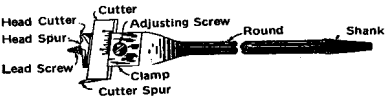

FIGURE 4. Expansive Bit.
2.09 *Expansive Bit*—This bit consists of a bit shank and round, terminating in a slotted head having a lead screw. The threads are 18 per inch and are provided with a cutter secured to the head with an adjusting clamp and screw. It is available in two sizes, large and small. Each size is furnished with a large and small adjustable cutter, both of which carry scales graduated in 1/32 of an inch to furnish adjustment to 1/16 of an inch on the diameter. The overall lengths of the large and small bits are 9-1/4 inches and 7-5/8 inches, respectively. The small bit has a 1/2-inch diameter head and bores holes from 1/2 inch to 7/8 inch, and 7/8 inch to 1-1/2 inches in diameter depending on whether it is equipped with a small or large cutter. The large bit has a 7/8-inch diameter head and bores holes from 7/8 inch to 1-3/4 inches, and 1-3/4 inches to 3 inches in diameter depending on whether it is equipped with a small or large cutter. See Figure 4.